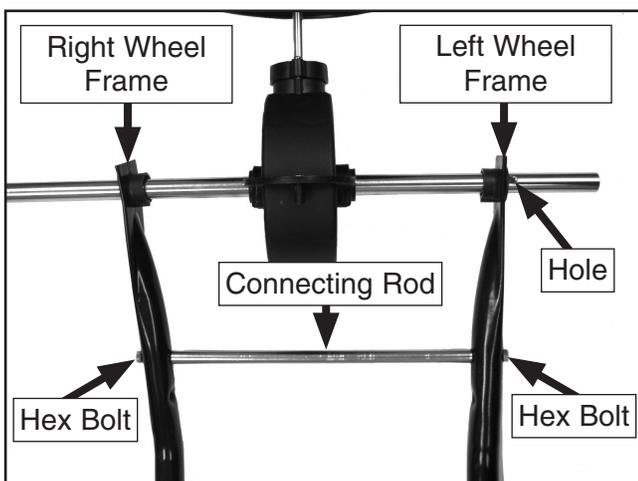

Figure 4. Frame assembly.
2. Slide the left and right wheel frames onto the gear box axle. Attach the connecting rod to the wheel frames using the M6-1 X 45 hex bolts, as shown in **Figure 4**. Make sure that the hole in the gear box axle is on the right hand side, so the impeller will spin in the proper direction (clockwise) after assembly.